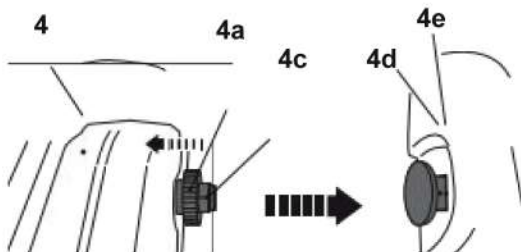

Fig. 23
- > Slide the nut with the locking knob counterclockwise until the square neck (4d) separates from the square locking hole (4e) in the disc guard (4) (rys. 23).